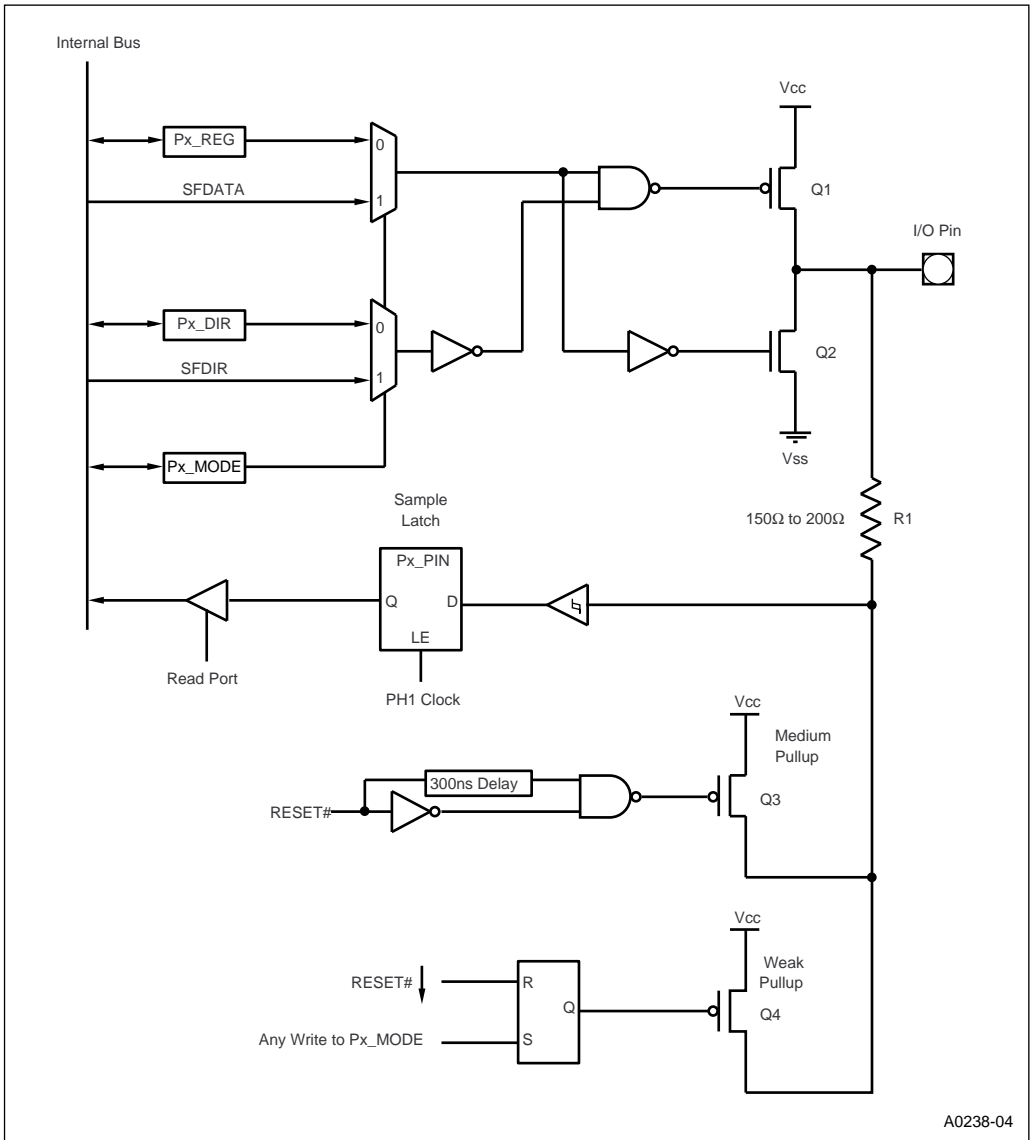

Figure 6-2. Bidirectional Port Structure
Figure 6-2 shows the logic for driving the output transistors, Q1 and Q2. Q1 can source at least -3 mA at $V_{CC} - 0.7$ volts. Q2 can sink at least 3 mA at 0.45 volts. (Consult the datasheet for specifications.)
- Port 1** After reset, your software must configure the device to match the external system. This is accomplished by writing appropriate configuration data into P1_MODE. Writing to P1_MODE not only configures the pins but also turns off the transistor that weakly holds the pins high (Q4 in Figure 6-2 on page 6-8). For this reason, even if port 1 is to be used as it is configured at reset, you should still write data into P1_MODE.
- Port 2** After reset, your software must configure the device to match the external system. This is accomplished by writing appropriate configuration data into P2_MODE. Writing to P2_MODE not only configures the pins but also turns off the transistor that weakly holds the pins high (Q4 in Figure 6-2 on page 6-8). For this reason, even if port 2 is to be used as it is configured at reset, you should still write data into P2_MODE.
- Port 5** After reset, the device configures port 5 to match the external system. The following paragraphs describe the states of the port 5 pins after reset and until your software writes to the P5_MODE register. Writing to P5_MODE not only configures the pins but also turns off the transistor that weakly holds the pins high (Q4 in Figure 6-2 on page 6-8). For this reason, even if port 5 is to be used as it is configured at reset, you should still write data into P5_MODE.